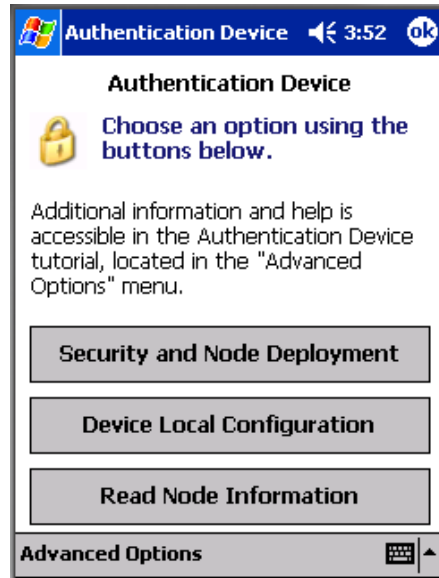

Figure 9 Main Menu
**(For item numbers, refer to Figure 9)**